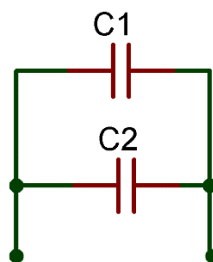

Figure 3 – Circuit 3
- c. Calculate the total capacitance of the circuit shown in Figure 3, if C1 is 22nF and C2 is 33nF. Show all workings.